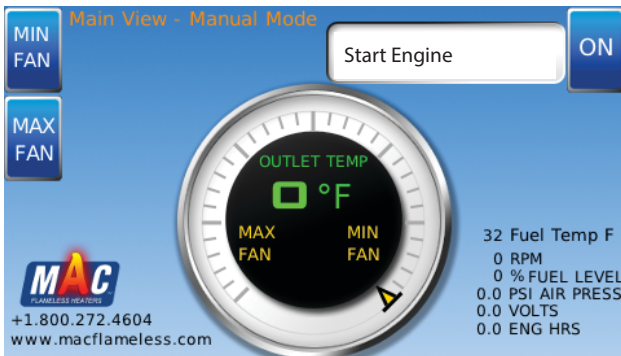

Figure 3-2. Start Engine
3. When the screen displays "Start Engine" (*Figure 3-2*), turn ignition key to START.